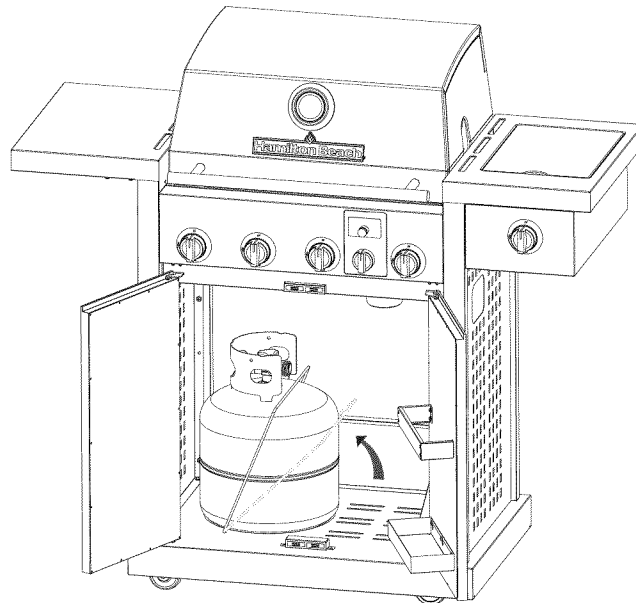

Fig. 14
1. Place LP tank into hole in bottom shelf with tank collar opening facing to the front as shown. Raise tank holder to hold LP tank securely in place as shown in **Fig. 14**.
4. Tank must be oriented to provide proper vapor withdrawal, as shown in **Fig. 14**.
8. Other tanks may be acceptable for use with your grill provided they are compatible with the tank retention means shown in **Fig. 14**.